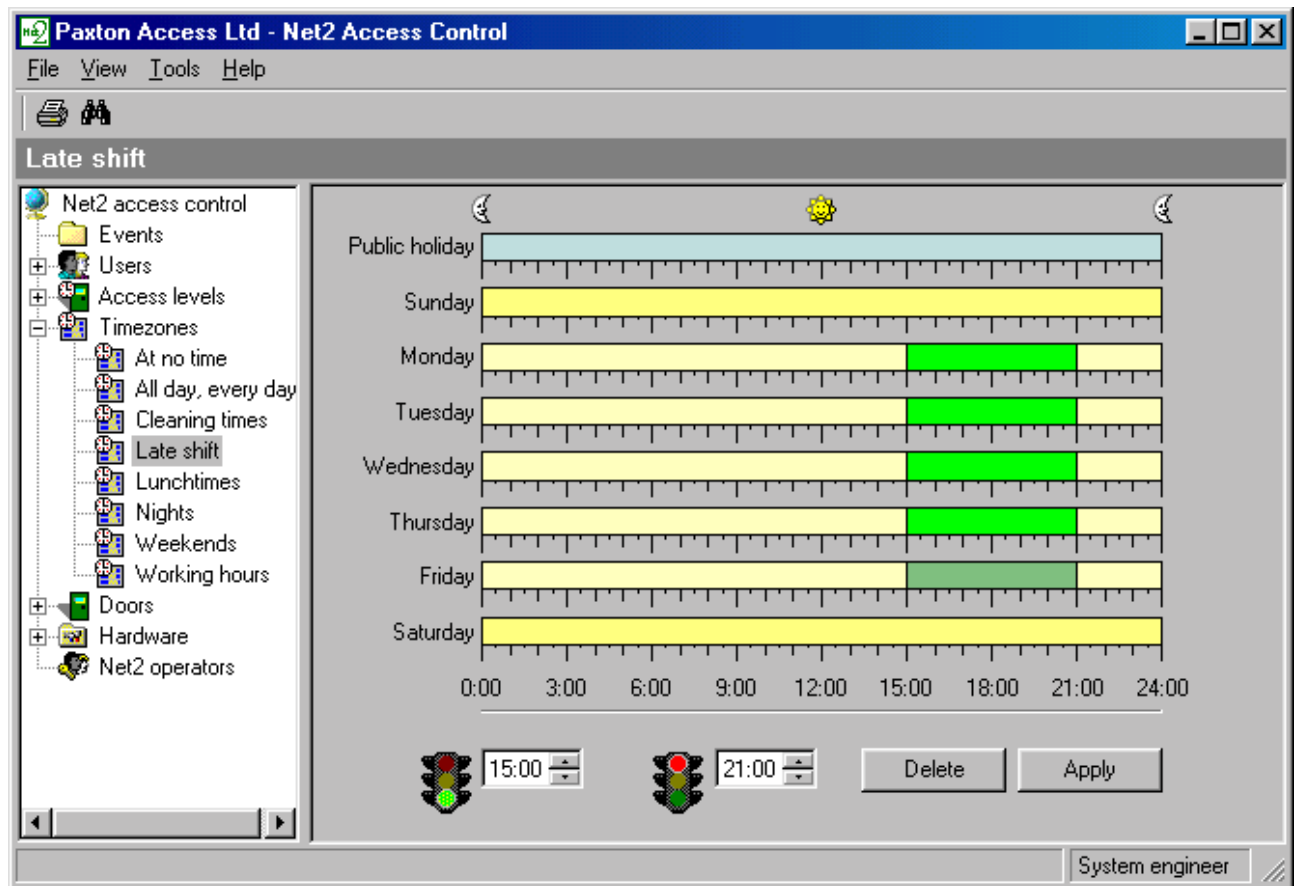

Figure 4.6
3. Create the timezone required, see figure 4.6. Timeslots are created by holding down the mouse button and dragging the cursor.